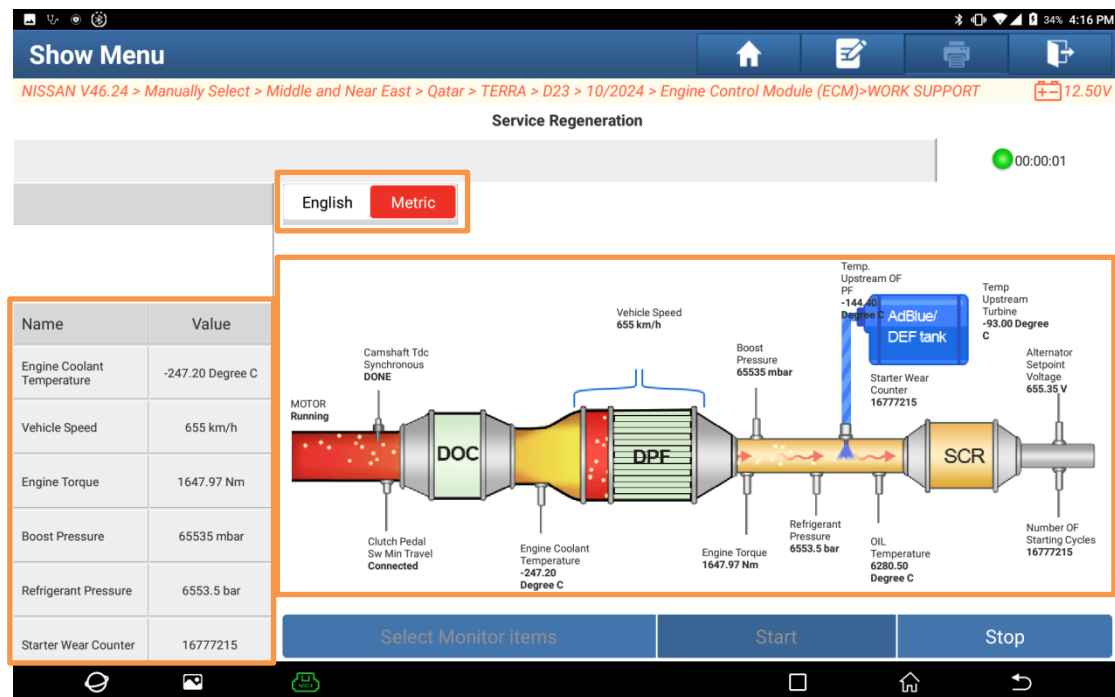
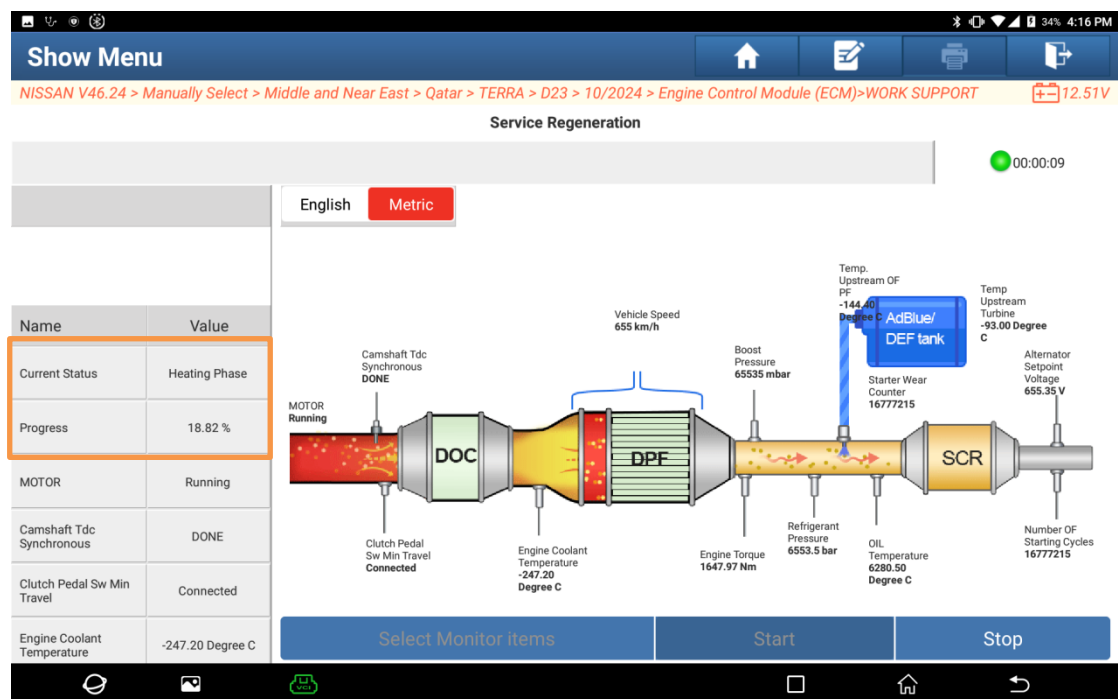
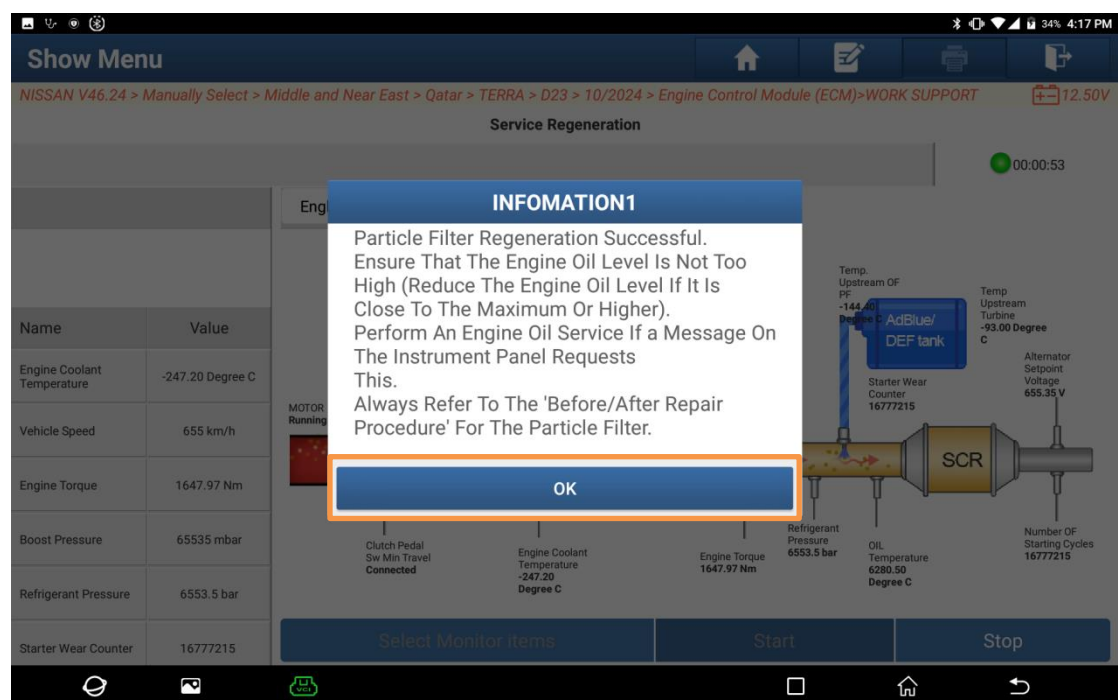

Figure 28
Figure 29
Figure 30
18. Carefully read the pop-up prompt information. Turn the passenger compartment ventilation to the maximum speed and turn on the headlights. Click [OK] to enter the interface shown in Figure 28. During the execution of the service regeneration function, you can view the changes in the selected data stream items on the animation interface in Figure 28, or slide in the bottom left corner of the interface in Figure 28 to view various data stream values. If you wish to view data stream values in other units of measurement, you can click [English] or [Metric] to switch.
19. In the bottom left corner of the interface in Figure 28, you can view the current execution status and progress of the service regeneration function, as shown in Figure 29. After the function executes automatically for a period of time, a prompt message “Particle Filter Regeneration Successful” will pop up, as shown in Figure 30, indicating that the regeneration function has been completed. Carefully read the pop-up prompt information. Ensure that the engine oil level is not too high. If the instrument panel displays a message requiring engine oil service, perform the service. Click [OK] to return to the [WORK SUPPORT] menu interface.